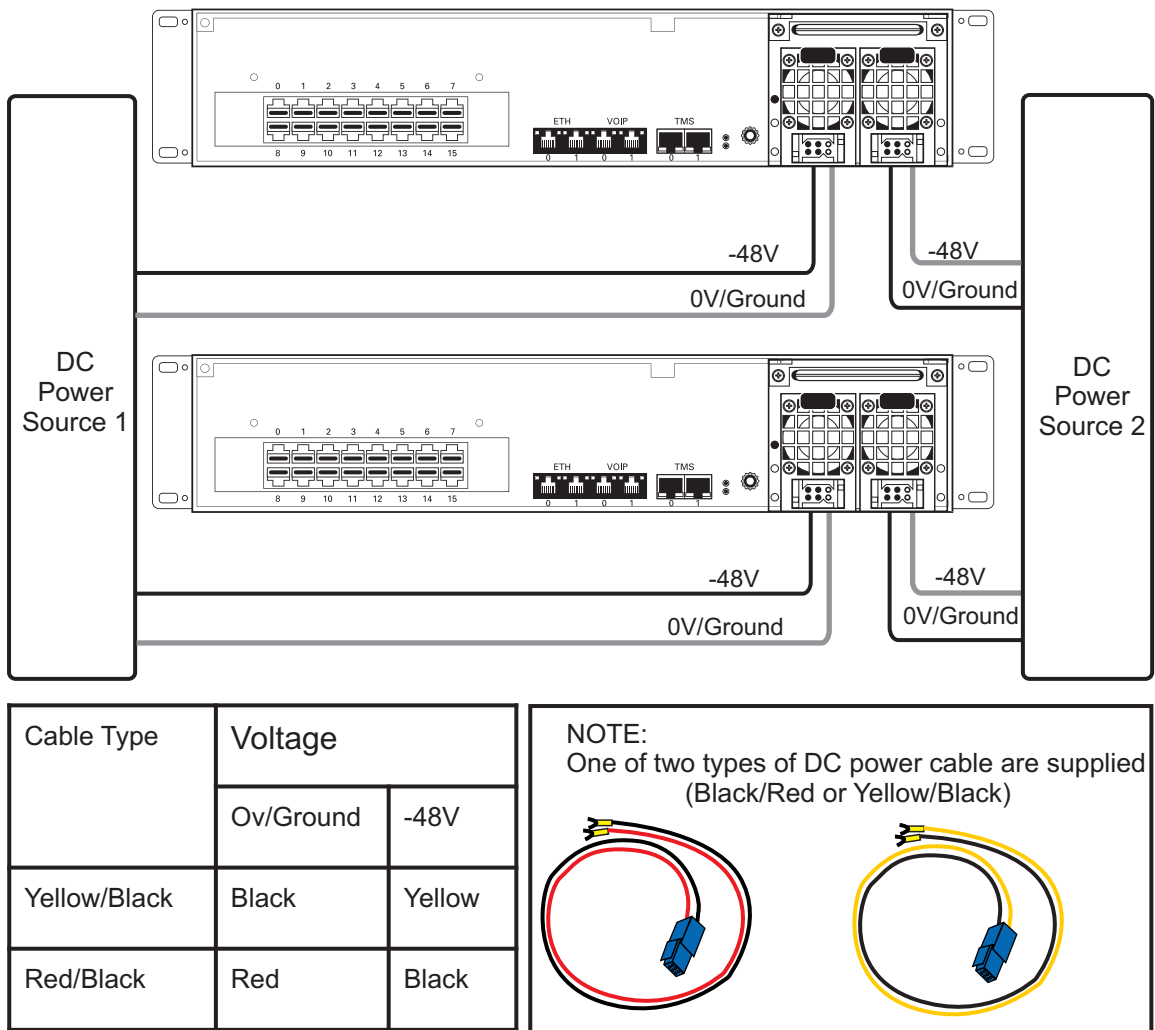

Figure 2.20 3200 Series and 3200 Series +1 DC Power Connections
1. Connect the first DC power connector of the 3200 series and 3200 series +1 units to DC power source one. See figure 2.20 on page 44.